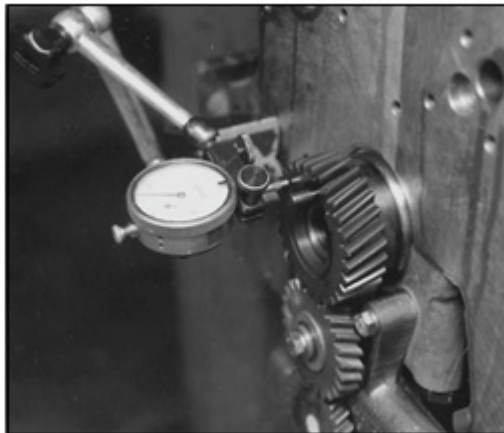

Figure 20
- f. Check the crankshaft end play (Figure 20).
- Fit a dial gauge with a magnetic base on the crankcase either on the gear side or the flywheel end side (Figure 20). Push the crankshaft away from the dial gauge with a lever. Set the dial at zero (0). Again, move the crankshaft toward the dial gauge and take the reading.